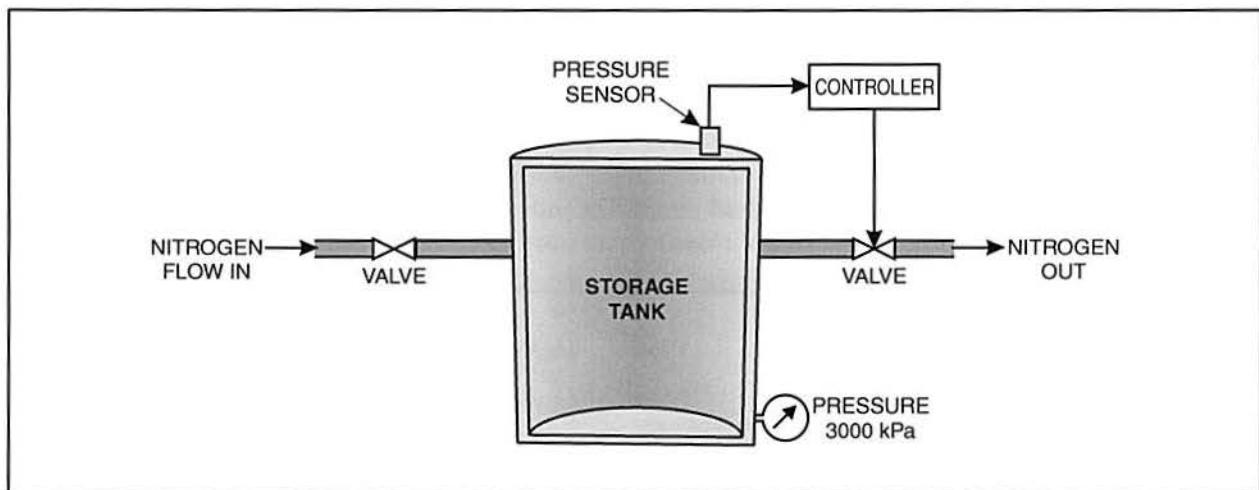

Figure 14. Example Control Loop
6. Examine the control loop in figure 14. Determine the manipulated and controlled variables.